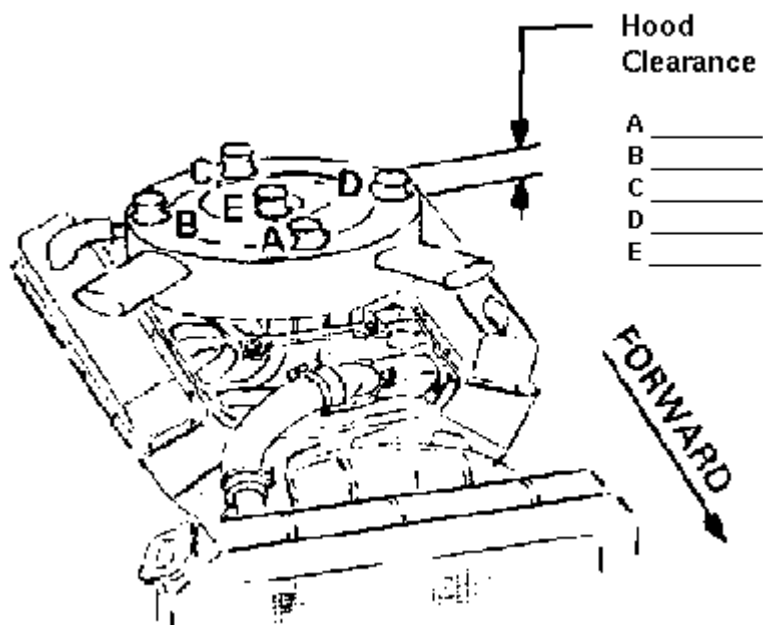

Figure 2
4. See Figure 2 and record on paper the measurements in spaces labeled A-B-C-D-E.